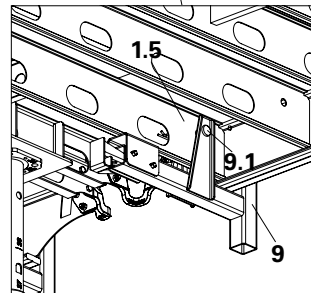

Fig. A9.04a
Place the guardrail holder (9) into the hole (1.5) provided on the cross strut C of the panel. (Fig. A9.04a)